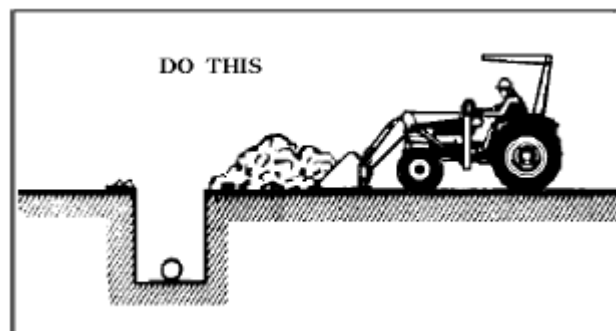

Fig4.20.Approach the pile with a flat bucket.
- This method, shown above, will impose severe shock loadings on the dump linkage, the bucket Cylinder, and the Tractor shown in figure 4.20.